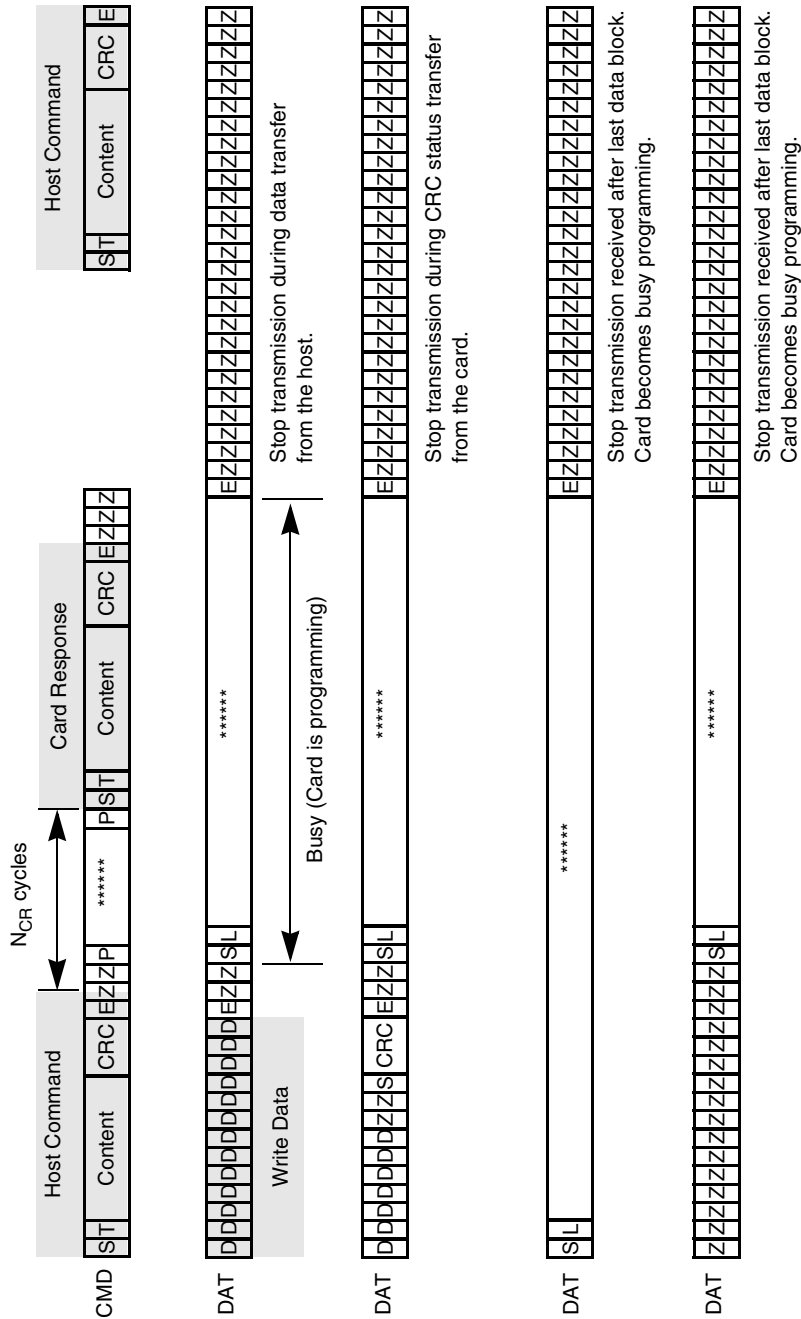

Figure 30. Stop Transmission During Different Scenarios
The card identification and card operation conditions timing are processed in open-drain mode. The card response to the host command starts after exactly  $N_{ID}$  clock cycles. For the card address assignment, SET\_RCA is also processed in the open-drain mode. The minimum delay between the host command and card response is NCR clock cycles as illustrated in Figure 26. The symbols for Figure 26 through Figure 30 are defined in Table 25.
**Table 25. State Signal Parameters for Figure 26 through Figure 30**
The stop transmission command may occur when the card is in different states. Figure 30 shows the different scenarios on the bus.
Table 26. Timing Values for Figure 26 through Figure 30
**Table 26. Timing Values for Figure 26 through Figure 30 (Continued)**